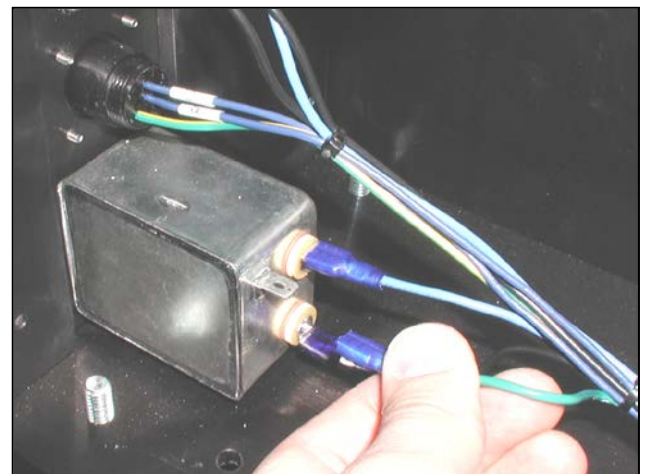

Figure 3-48. Remove three spade connectors
3. Remove the three spade connectors from the Line Filter (Figure 3-48).